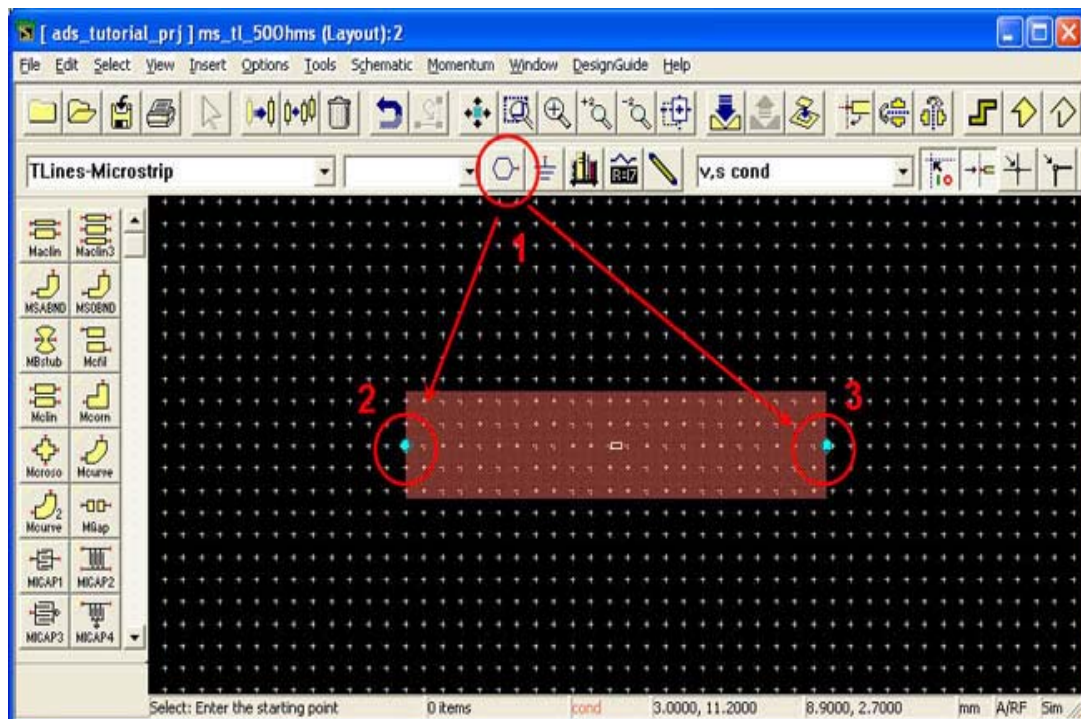

Figure 1. Momentum window showing Microstrip line.
To perform a full-wave simulation on the Microstrip line from Part I, open up the project and from the schematic window go to Layout>Generate/Update Layout. A series of windows will appear, click on Okay for all of them; once this has been done a Momentum window will appear showing the layout of the Microstrip line as depicted in Fig. 1.
- 1.) Click on the port icon labeled 1 on in Fig. 1,
- 2.) Click on the first port labeled as 2 in Fig. 1
- 3.) Click on the second port labeled as 3 in Fig. 1.